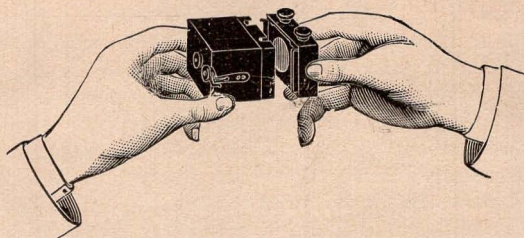

Fig. 7.—OPENING OR CLOSING KOMBI.
**How to learn about it.** To learn it practically, take your Kombi (unloaded), sit down at a table, and take it apart. To do this, grasp rear and front portion, each in one hand, and pull gently. (See illustration, Fig. 7.)